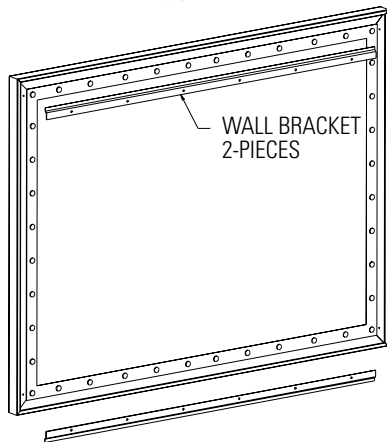

FIGURE 5
1. Secure the wall bracket to wall studs at the desired height. Make sure the bracket is level. The top of the frame will be 1/8" above the top of the wall bracket when mounted. You will need at least 5/8" clearance above the bracket to hang the screen. Figure 5 and 6 show the proper orientation for the supplied wall brackets.